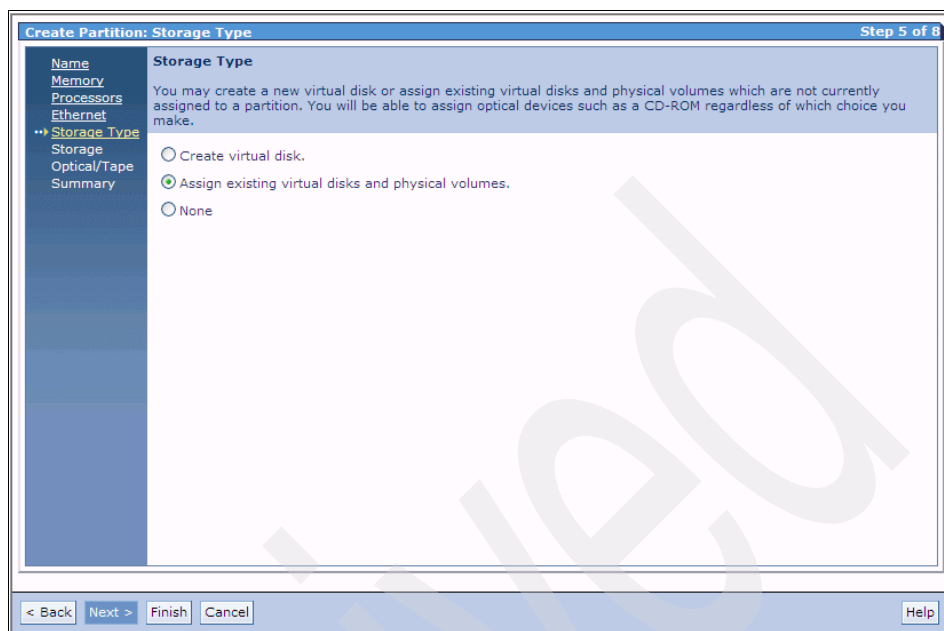

Figure 5-16 Storage selection for a shared memory partition
- As shown in Figure 5-16 on page 194, we chose the **Assign existing virtual disks and physical volumes** option. Click **Next** to continue to the selection window.